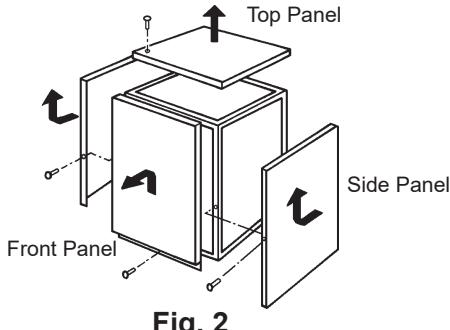

Fig. 2
3) Remove the front, top and side panels. See Fig. 2.